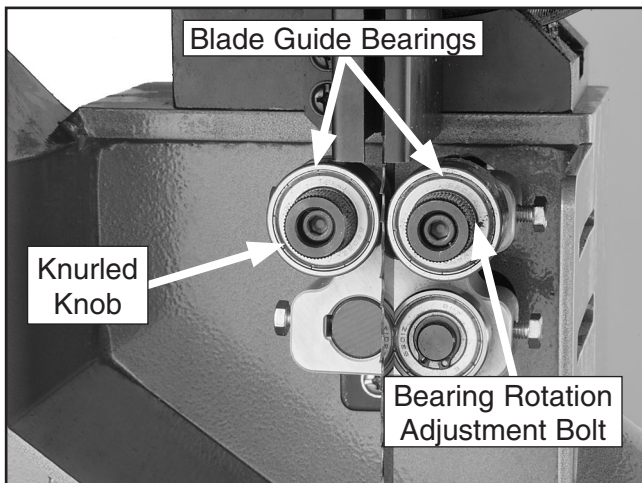

Figure 25. Lower blade guide controls (front view).
3. Familiarize yourself with the blade guide controls shown in **Figure 25**.